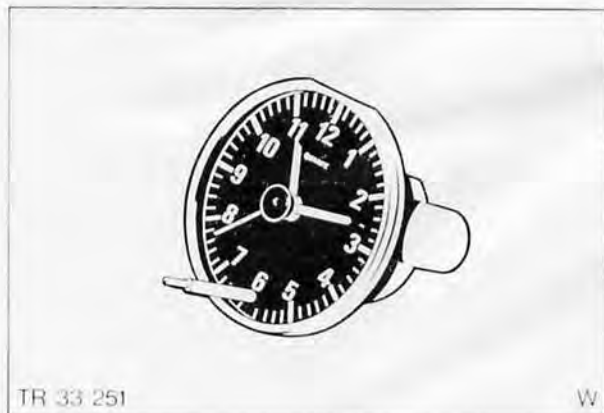

Fig. 74 Clock removed from cluster
6. Withdraw key approximately 5 mm (0.2 in). This causes an additional securing ward, Fig. 74, which acts on key cylinder chamfer, to be brought flush to barrel.